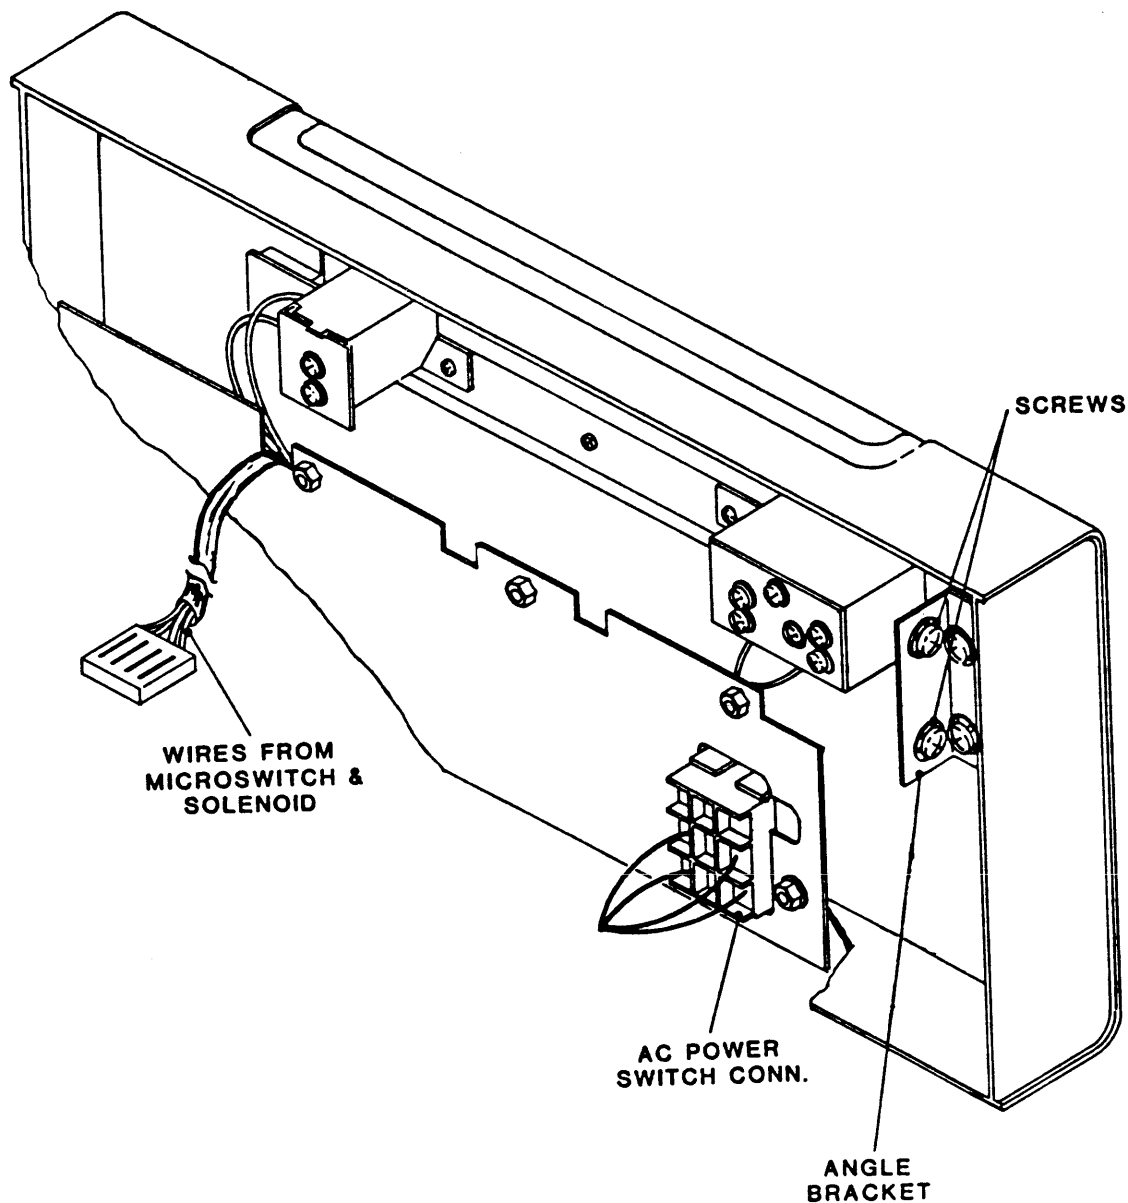

Figure 4-18 Panel Assembly
4.3.22 PANEL ASSEMBLY (Figure 4-18)